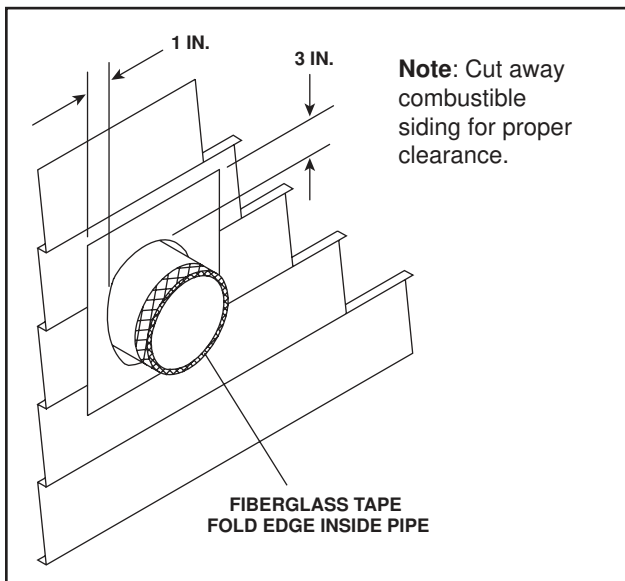
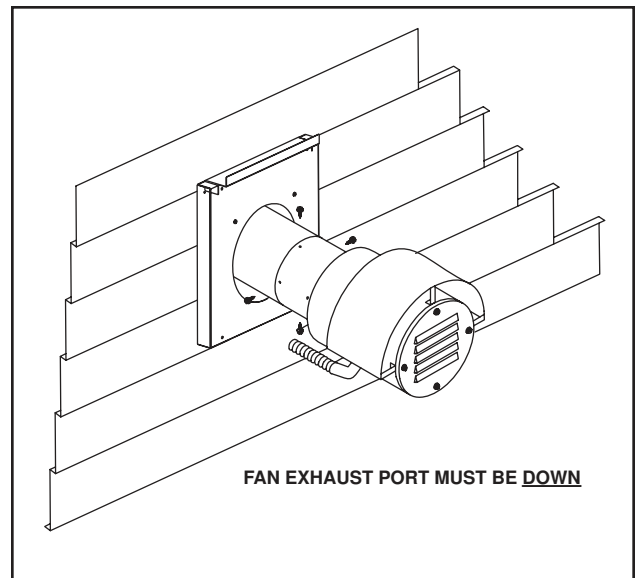

Figure 2.
Figure 3.
4. After determining the location of the vent system termination point (see Step 1) cut a 10 in. X 10 in. (for 4 in./6 in. diameter pipe) or a 10 in. X 12 in. (for 5 in./8 in. diameter pipe) square hole through the wall or roof. Apply the adhesive back fiberglass tape to the last vent system component 1-1/4 in. from the edge. Firmly press the tape on to the venting and fold the extra tape inside the venting. See Figure 2. Mount and attach the power vent to the last vent system component. The exhaust port of the PVK-80 cap **MUST** be pointed down. Fasten the last horizontal vent section to the exterior firestop with a sheetmetal screw through the flange (5 in./8 in. diameter pipe) or pipelock tab (5 in./8 in. diameter pipe) and into the vent pipe. See Figure 3.